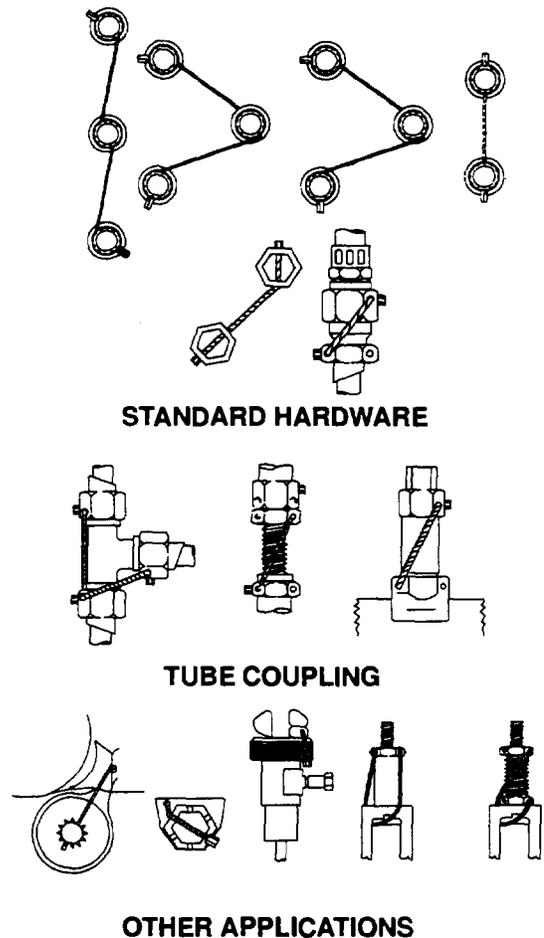

Figure 2-90. Examples of Installed Safety Cable
e. Examples of Installed Safety Cable. See figure 2-90.